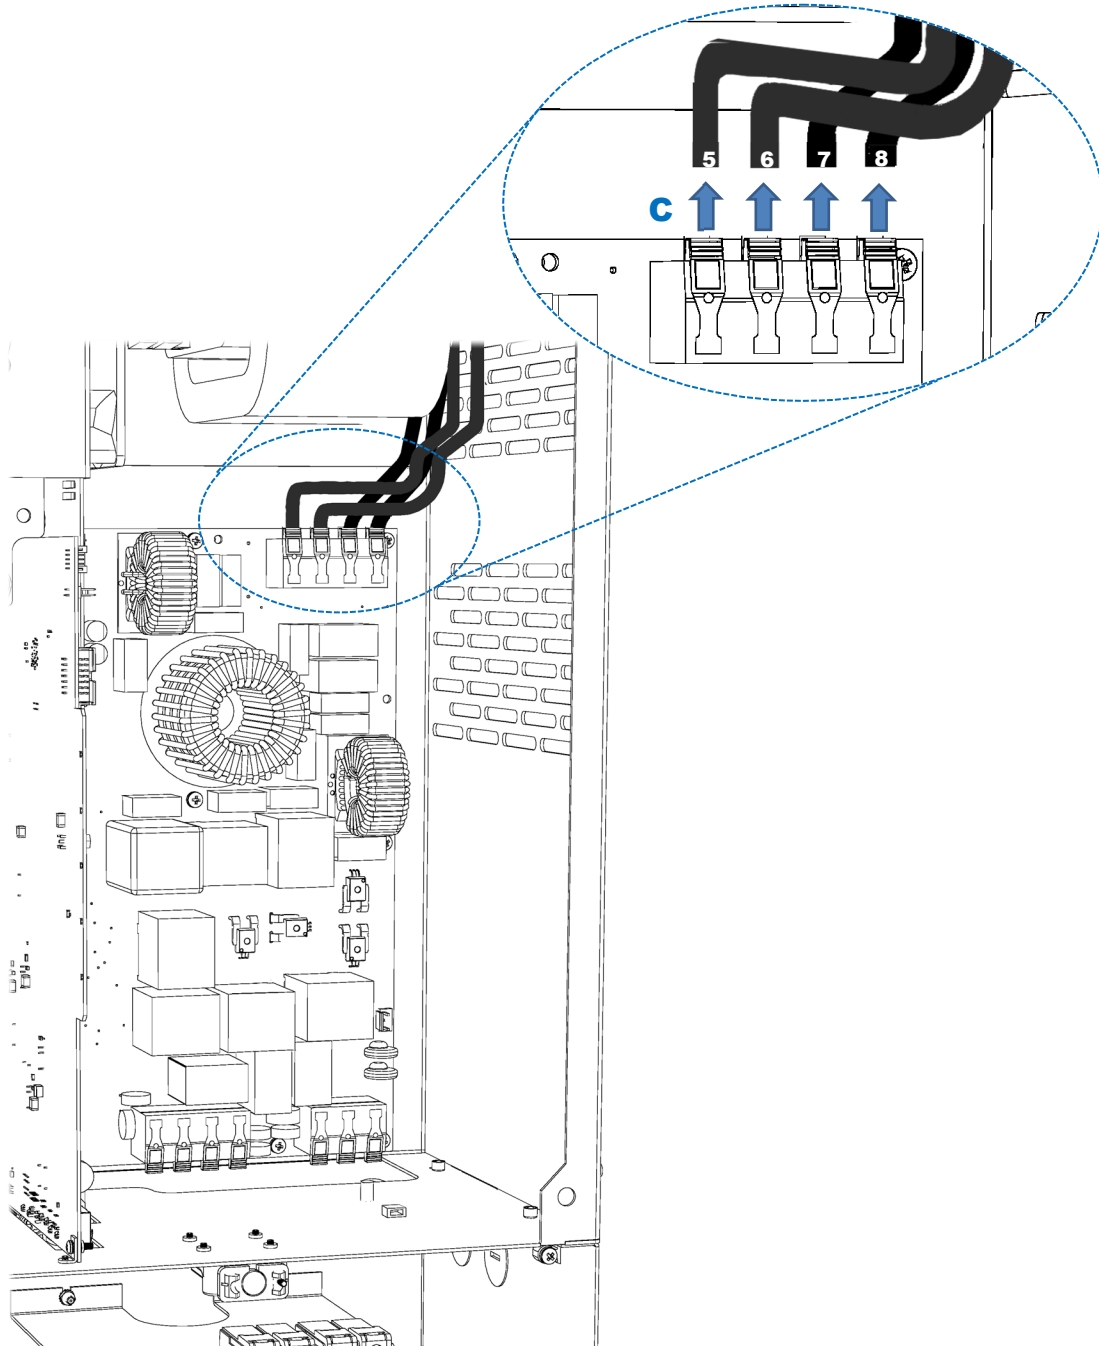

Figure 43 Transformer Terminals
Unclip all wires from the transformer terminals. See **C** in Figure 43.
- ❖ Mark or note the wire positions so that they can be reinstalled correctly. The four wires are marked with numbers 5 through 8. They are installed in the positions shown in Figure 43. The terminals, however, are not marked.
- Replace the transformer wires **C**. Make certain to observe the correct wire positions. See Figure 43 if necessary. Make certain that the wires are fully inserted and that no stray strands are exposed. After latching, tug on the wires to ensure that they are secure.